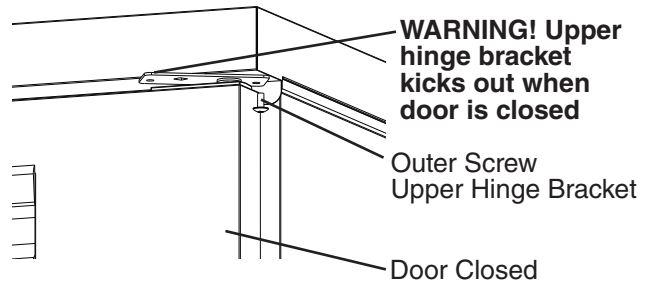

Fig. 9
- 3) Close the door. **WARNING! Keep away from upper hinge bracket. Upper hinge bracket kicks out when door is closed.** See Fig. 9. Remove the outer screw from the upper hinge bracket.